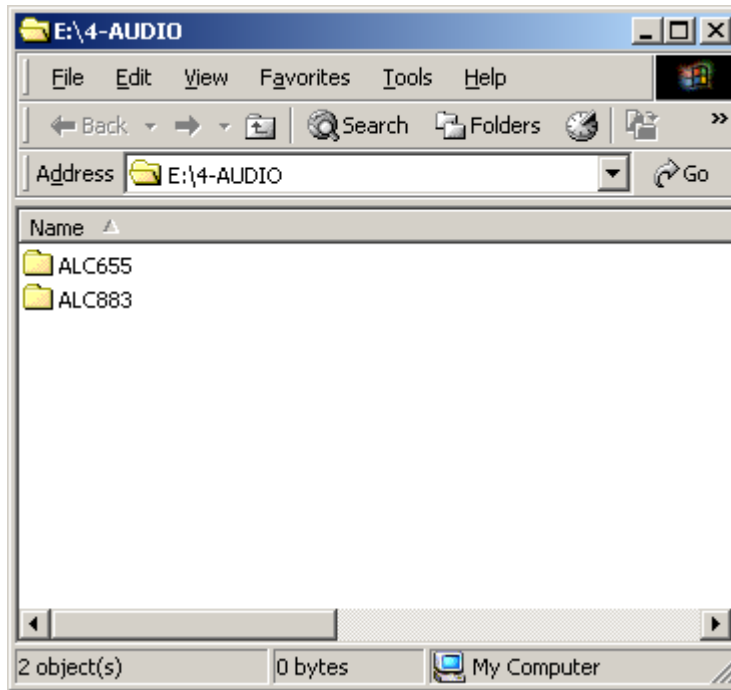

Figure 7-25: Select the Audio CODEC
Step 2: A new window opens (**Figure 7-25**).